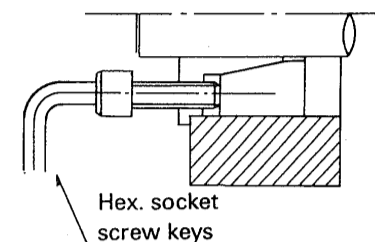

Fig. 4 Removal
3. If the POWER-LOCK still locks even after loosening bolts, tighten bolts into the tapped holes for removal. (see Fig.4)